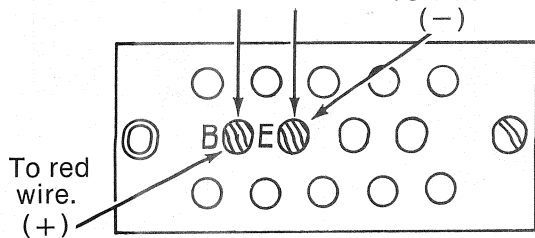

Fig. 10. Versatrip Plug Test
- b. Apply 9VDC to appropriate plug pins as shown in Figs. 10 and 11.